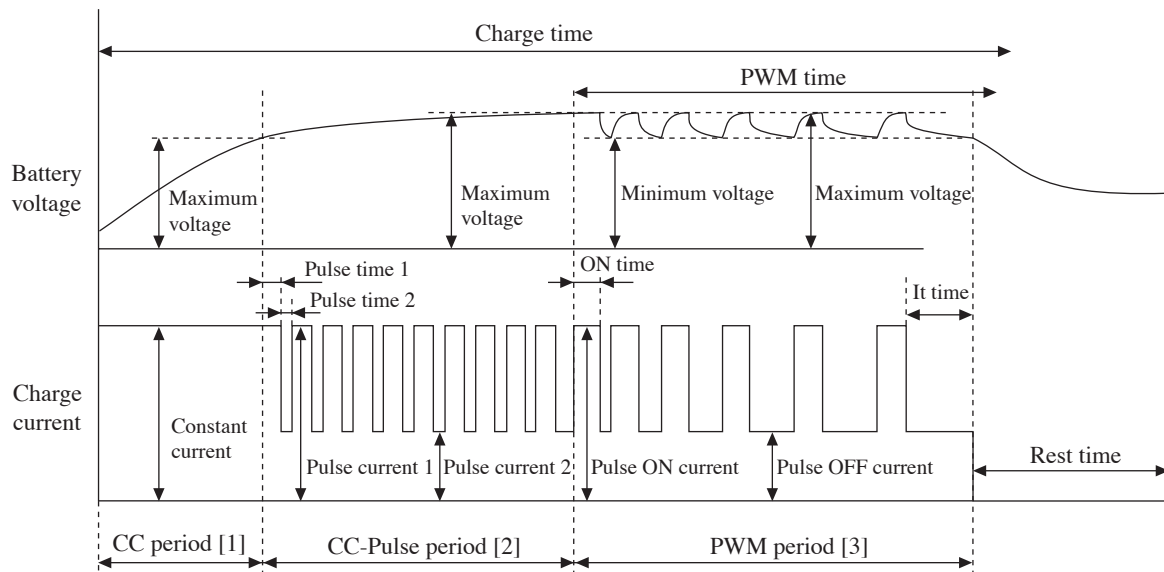

Fig. 5-19 Illustration of Pulse Charge
Fig. 5-19 shows an illustration of the pulse charge operation. In pulse charge, charging is performed over three periods: constant current charge (CC), constant current/pulse charge (CC-Pulse), and PWM pulse charge (PWM).
Fig. 5-19 illustrates the transition of constant current charge → maximum (transition) voltage detection → constant current/pulse charge → maximum (transition) voltage → Pulse ON current → Pulse OFF current → minimum voltage detection → It time → charge rest.